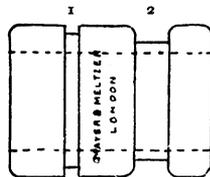

Fig. 1.—Side view of rubber bobbin for end-to-end anastomosis. The interrupted lines show the size of the lumen.
Bobbin for End-to-end Anastomosis.—This is a red rubber instrument, shown in Fig. 1. The two ends of the bowel are secured by purse-string sutures in the narrow groove (1), then